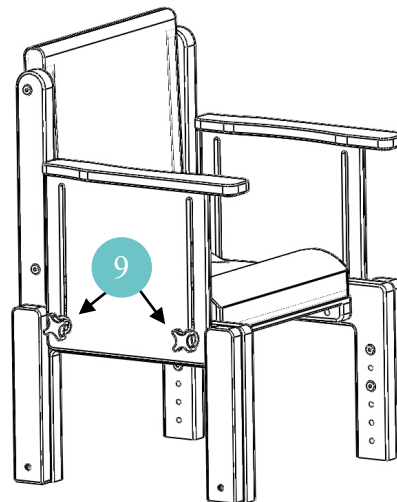

Figure 4
- Loosen handwheels (Ref. 9 of Figure 4).
- Tighten handwheels (Ref. 9 of Figure 4) when the armrest is set.